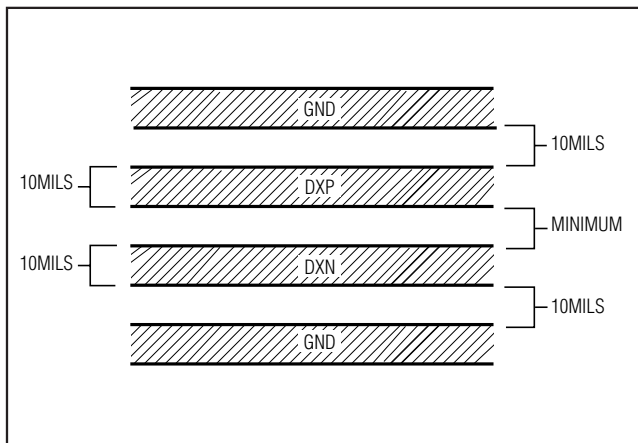

Figure 1. Recommended DXP-DXN PC Traces
- 3) Route the DXP and DXN traces in parallel and in close proximity to each other, away from any higher voltage traces, such as $+12\text{VDC}$. Leakage currents from PC board contamination must be dealt with carefully since a $20\text{M}\Omega$ leakage path from DXP to ground causes about $+1^\circ\text{C}$ error. If high-voltage traces are unavoidable, connect guard traces to GND on either side of the DXP-DXN traces (Figure 1).
- 6) Use wide traces. Narrow traces are more inductive and tend to pick up radiated noise. The 10mil widths and spacings that are recommended in Figure 1 are not absolutely necessary, as they offer only a minor improvement in leakage and noise over narrow traces. Use wider traces when practical.